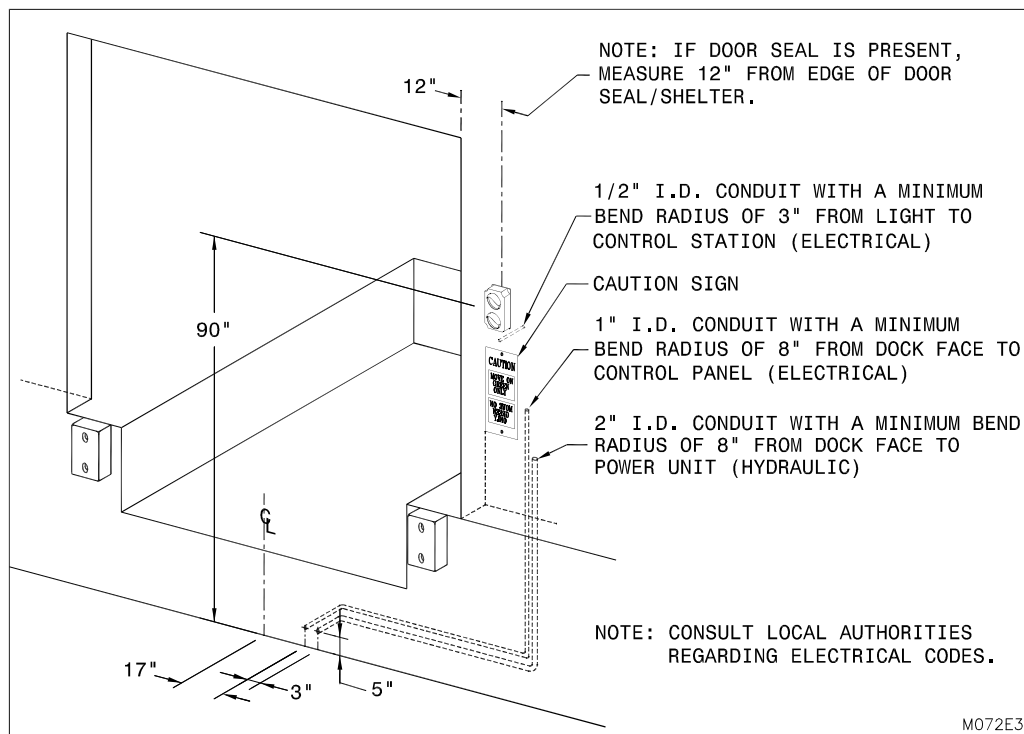

Figure 12: Conduit / Outside Light / Outside Sign Locations
4. ☐ Mount the outside light approximately 90” high from the finished driveway level (See “Figure 12: Conduit / Outside Light / Outside Sign Locations” on page 17).